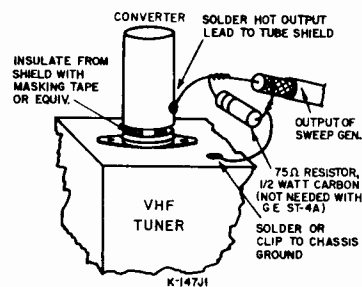

FIGURE 1. I-F SWEEP JIG
3. Connect sweep generator to converter stage using a test jig made up of an ungrounded tube shield terminated to ground as specified by the generator manufacturer. Users of General Electric test equipment need not terminate as the attenuator is terminated - See Figure 1.